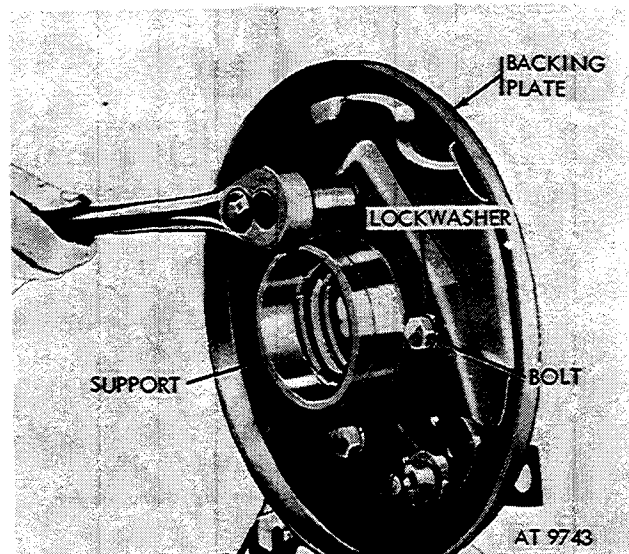

Figure 2-317. Remove backing plate from support.
(6) Remove support and backing plate. Remove four brake backing plate retaining bolts and lockwashers and remove backing plate from support (fig. 2-317).